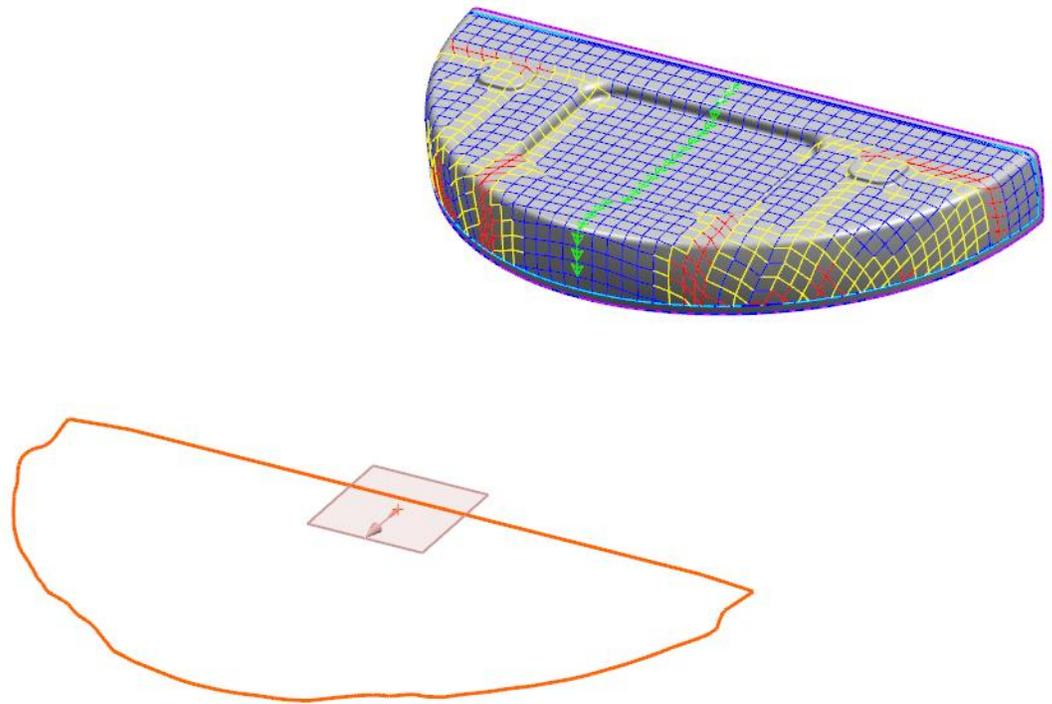

Figure 4–49
14. Switch to the NX window and review the producibility and flat pattern results as shown in Figure 4–49.